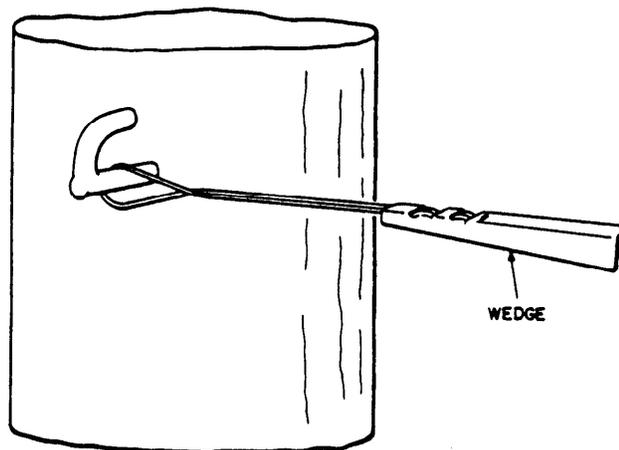

Fig. 10-Wire Loop on Drive Hook Loop
- 4.03 Place the wire loop of the wedge on the drive hook as indicated in Fig. 10. Where the attachment is a knob, spread the wire loop sufficiently to permit its slipping over the knob and into the groove. Then pull on the wire loop and at the same time pinch the two sides together until the loop conforms to the diameter of the groove.